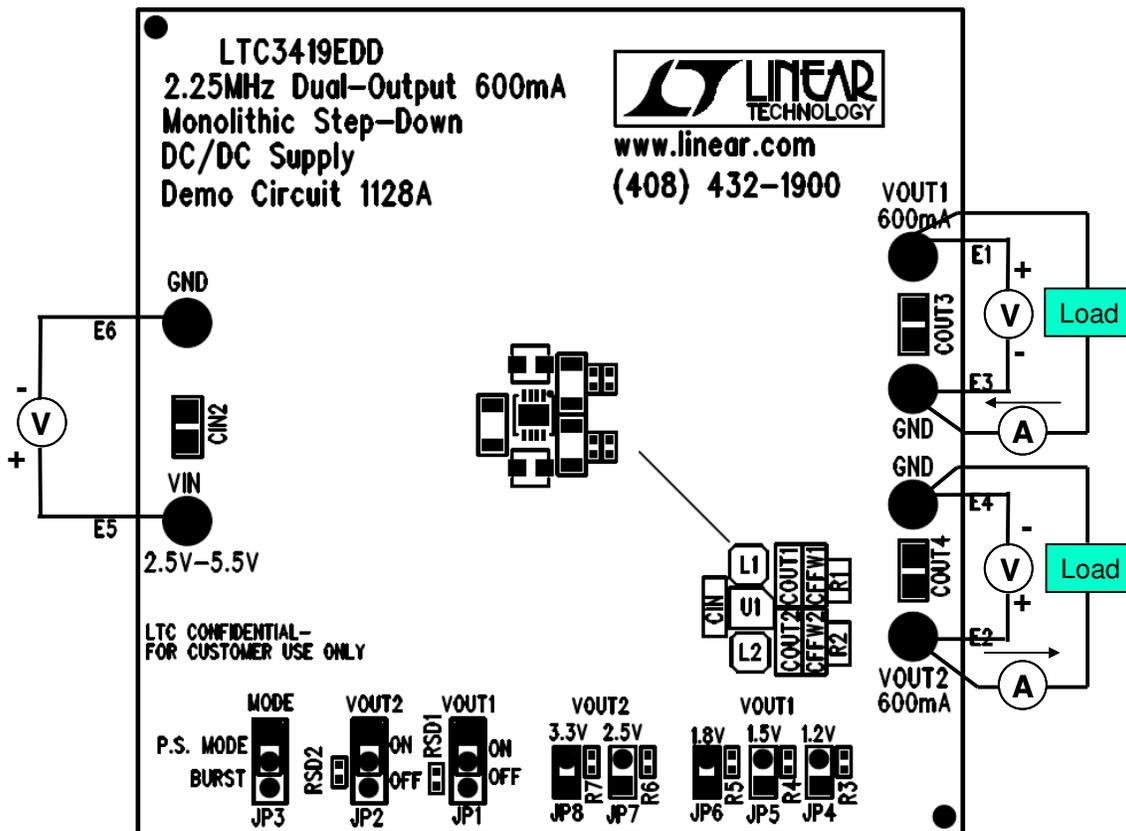

Figure 1. Proper Measurement Equipment Setup
Demonstration circuit 1128 is easy to set up to evaluate the performance of the LTC3419. Refer to Figure 1 for proper measurement equipment setup and follow the procedure below.
1. Connect the input power supply to the Vin and GND terminals on the left-side of the board. Connect the loads between the Vout and GND terminals on the right-side of the board. Refer to Figure 1 for the proper measurement equipment setup.